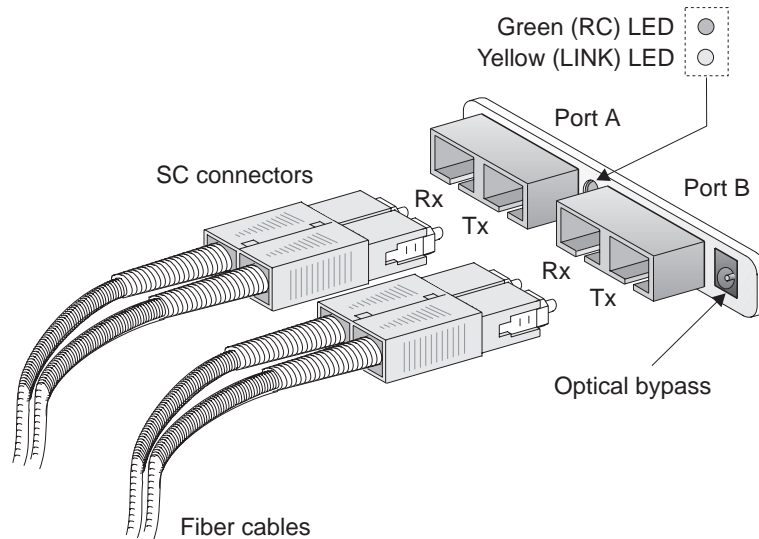

Figure 2-4. PB04511-002 Dual Attach SC Fiber Connection
- If you have a dual attach fiber PB04511-002, see Figure 2-4 on page 13.